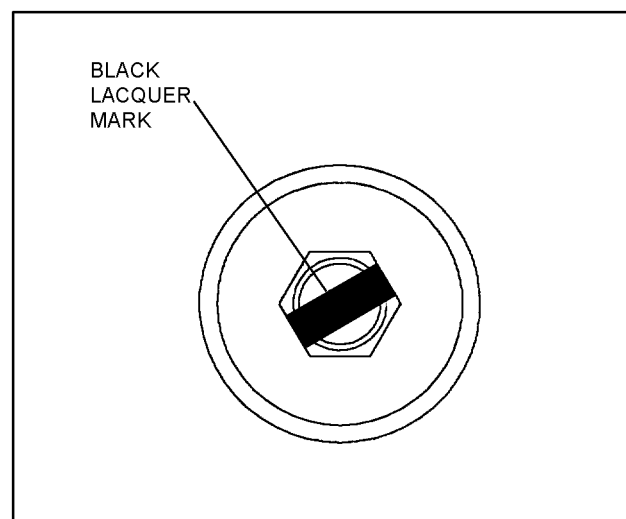

Figure 6-3. Black Lacquer Marking on Special Bolt
b. Filter post special screw is not marked with black lacquer. After it has been modified, it will be marked as shown in figure 6-3.